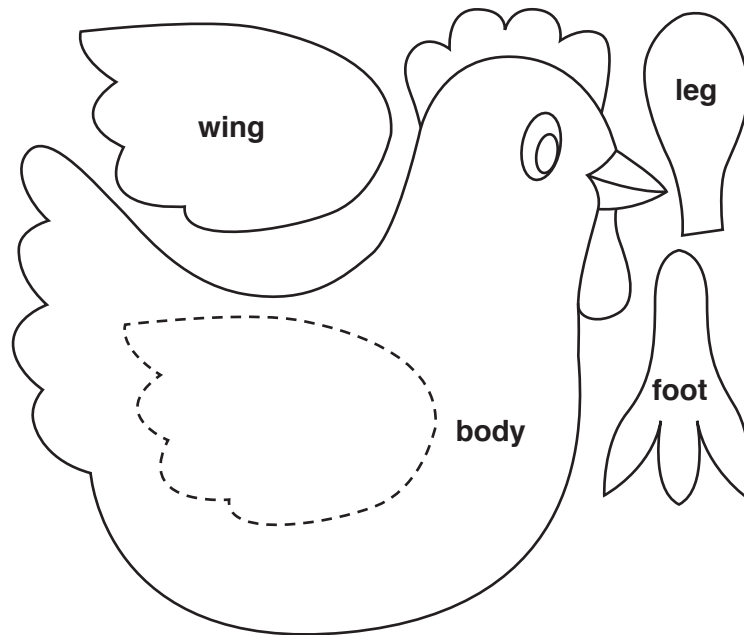

Fig. 3
- (c) Fig. 3 shows a drawing of the parts of the pull-along toy. The body will be cut from thicker MDF than the other components.
- (i) Fig. 3 has been drawn to a scale of 1:2.